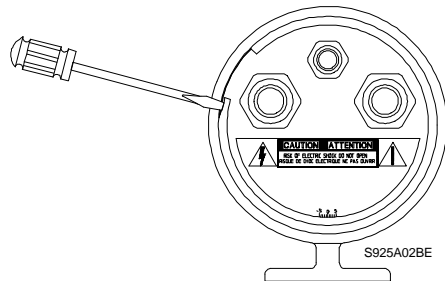

Figure 1: Removing Rear Retaining Ring
1. Remove the cradle from the housing by removing the rear retaining ring from the rear cap with the flat blade screwdriver. Place the screwdriver underneath the relieved portion of the retaining ring and gently pry outward. See **Figure 1**.